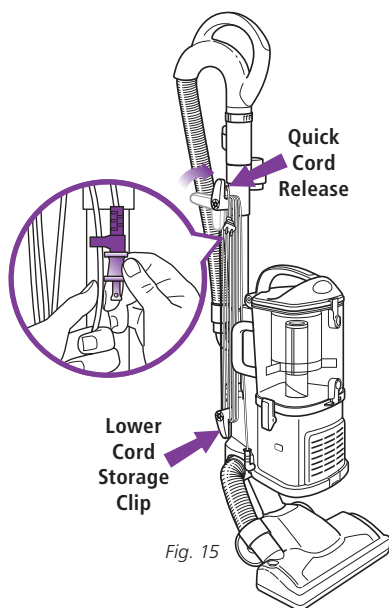

Fig. 15
- 2 Rotate the upper quick cord release to its upright position and coil the power cord loosely around the two clips. Clip the plug onto the cord to secure. (Fig. 15)